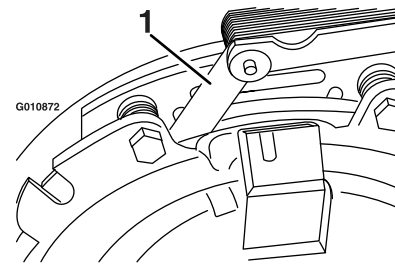
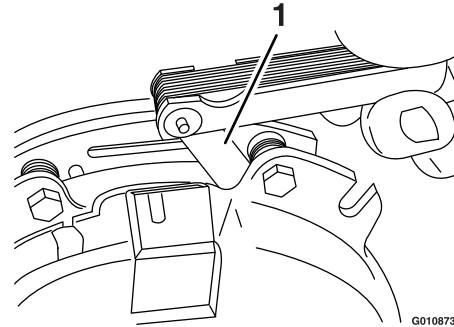

Figure 61
Figure 62
E. Using a 0.010 inch thick-feeler gauge, verify that a gap is present between the rotor and armature face on both sides of the brake pole as shown in Figure 61 and Figure 62.